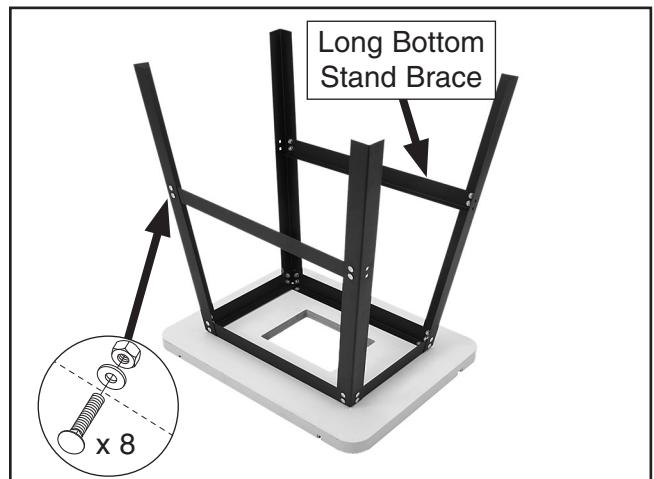

Figure 4. Long bottom stand braces attached.
3. Attach the long bottom stand braces to the legs with (8) M8-1.25 x 10 carriage bolts, 8mm flat washers, and M8-1.25 hex nuts, as shown in **Figure 4**.